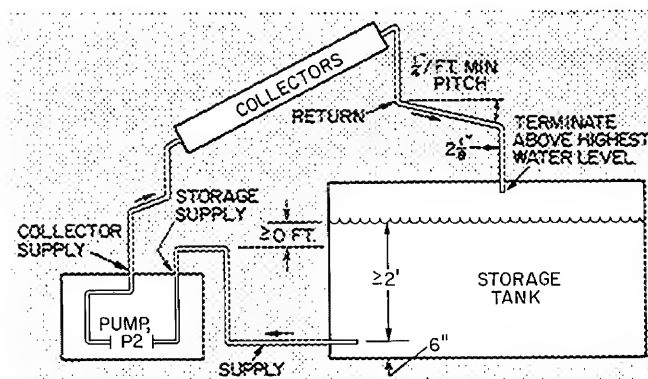

Fig. 13 – Solar Collector Panel(s) Piping Loop on Plain Water System
6. Serviceability — The tank must have an access hole to provide for servicing and maintenance. It must have openings available for placement of sensors (pg 14) and for inlet and outlet piping. The outlet piping must be: minimum 6-in. from bottom of the tank to preclude fouling or sediment; at least 2-ft from top of the tank so that the water pumps will have their required suction head (supplied by the tank's hydraulic pressure). See Fig. 13. There must be provision at the top of the tank for an atmospheric vent.
Collector Loop (Fig. 13) — Begin this loop with a 1-1/8 in. pipe leaving the bottom of the storage tank. The pipe enters the pump package at the "storage supply" (second from right) stub. After passing thru the collector pump, (No. 2), the loop exits the unit at the "collector supply" stub and